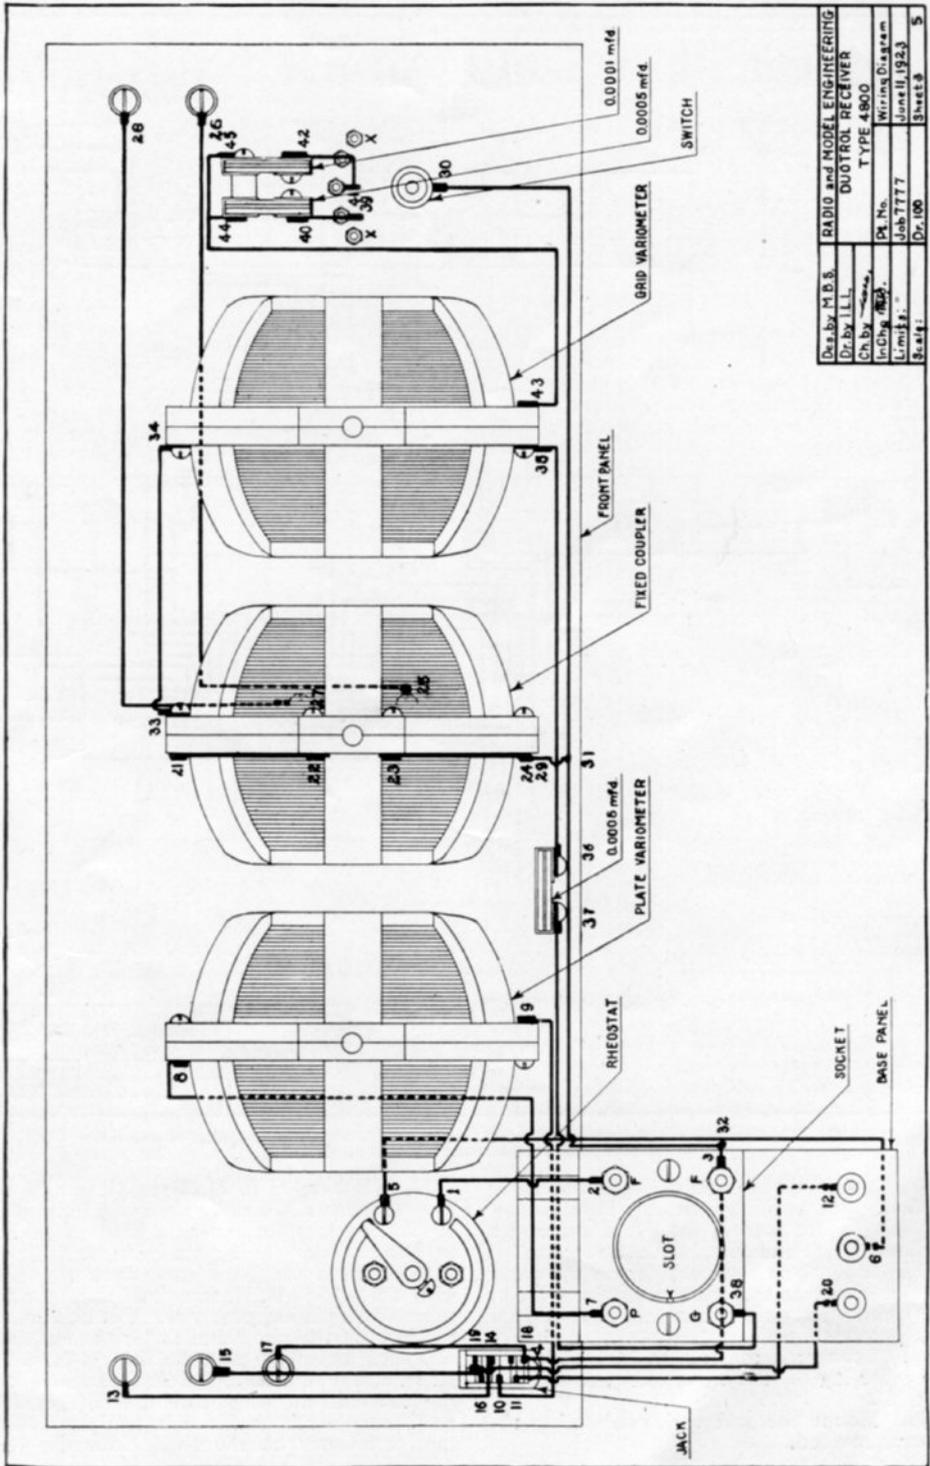

Fig. 8. The wiring as it is actually done. Numbers on the connections are those referred to in the step-by-step assembly instructions
no mistakes. The numbers referred to are in Fig. 8, the picture wiring diagram.
1. Mount the binding posts marked 13, 15, 17, 26 and 28 on the front panel, putting a soldering lug between the head and washer of each screw. Always have the lugs pointing in the direction shown in Fig. 8 as this helps considerably in the work of wiring the set.
nuts provided. Be sure that the terminals are to the right, as shown in Fig. 8. Fig. 1 shows a Sleeper Radio knob on the rheostat, substituted for the one supplied with it, so that it will match the other controls in design. If you make this change unscrew the original knob and pointer from the shaft and put the other one in place, tightening it by means of the set screw. Have the white line on the knob coincide with the line on the panel when the rheostat is in the off position.
13. Put two lugs on the center clamping screw of the fixed coupler at the top when the terminals are in the positions shown in Fig. 8.